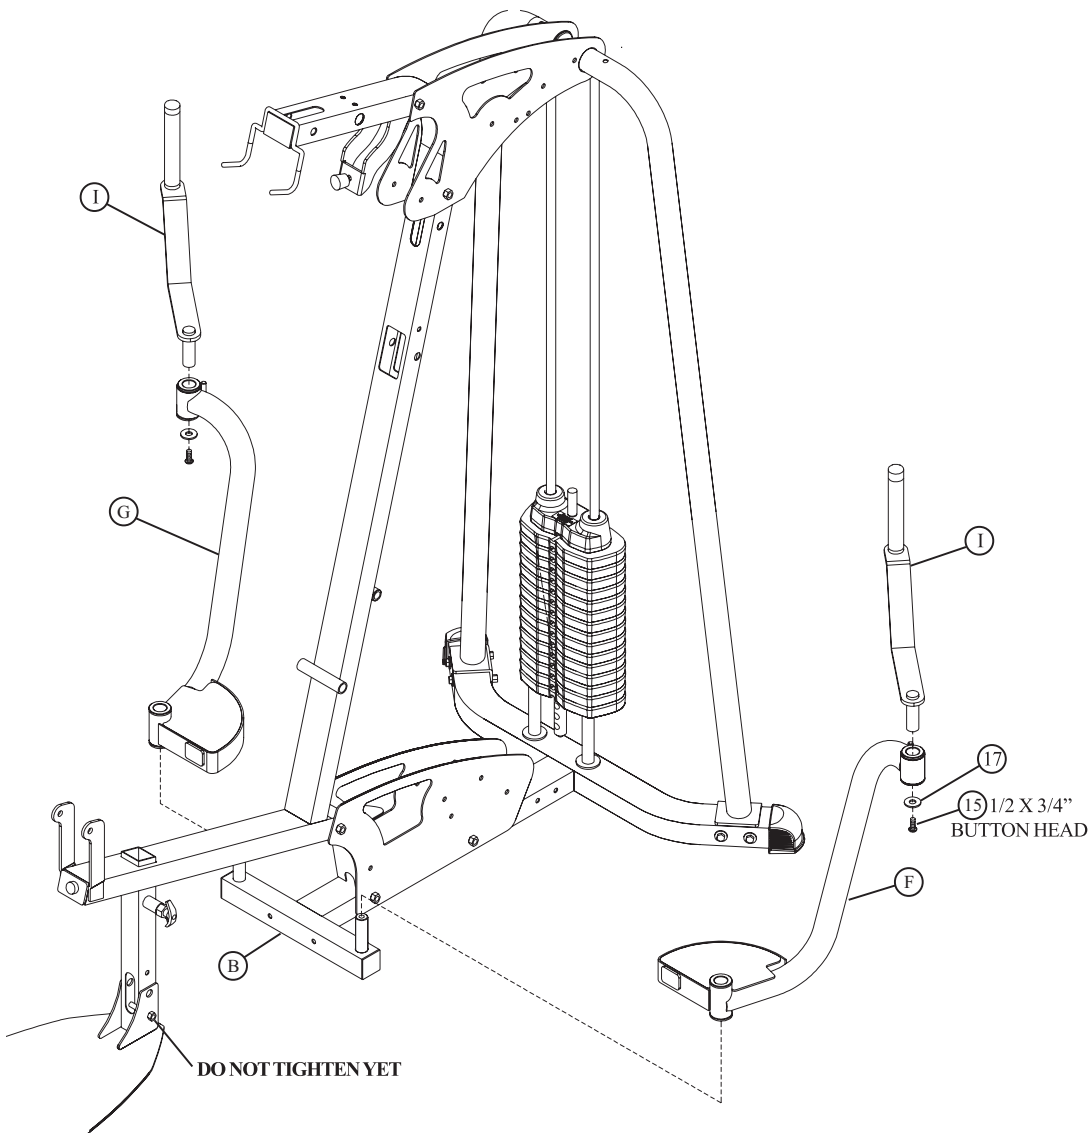

**FIGURE 6**
- SECURELY assemble the LEFT (D) and RIGHT (E) BOOM PLATES to the FRAME (A) using two 3/8 X 3-3/4" BOLTS (6) and two 3/8" SILVER LOCK NUTS (19). See FIGURE 6.
- Slide up both SHAFT COLLARS (29) to the top until flush with the bottom of the guide rod bushings in both the LEFT (M) and RIGHT (N) REAR UPRIGHTS and **SECURELY TIGHTEN** as shown in FIGURE 6.